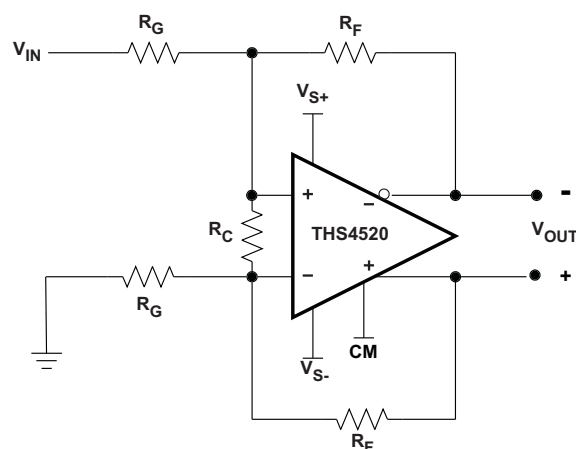

Figure 65. THS4520 with Noise Gain Compensation
Figure 65 shows a fully differential amplifier that reduces peaking at low gains. The resistor  $R_C$  compensates the THS4520 to have higher noise gain (NG), which reduces the AC response peaking (typically 3.8dB at  $G = +1$  without  $R_C$ ) without changing the DC forward gain. The input signal,  $V_{IN}$ , is assumed to be from a low impedance source, such as an op amp.